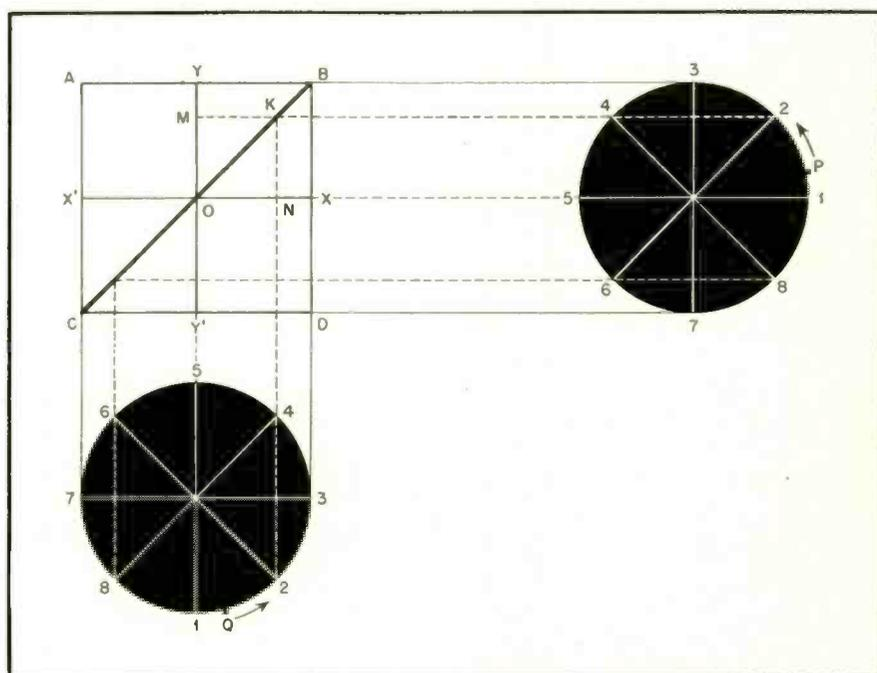

Fig. 1. Phase difference—0. Result: Line BOC.
Consider *Fig. 1*. The points *P* and *Q* describe simple harmonic motions within their respective orbits. Both move with the same angular velocity ω . The instantaneous projection of *P* is *M* and of *Q* is *N*. Both *M* and *N* execute simple harmonic motion along their respective axes *YOY'* and *XOX'*. To find the instantaneous value of the resultant point *K*, draw a perpendicular to *YOY'* through *M*, and another perpendicular to *XOX'* through *N*. The point of intersection of the two perpendiculars is the required point *K*. The numerals around the two circular orbits indicate the relative positions of *P* and *Q* at any instant and are therefore an indication of the phase difference.
The locus of the point *K* in *Fig. 1* is the line *BOC*. It is obvious from the arrangement of the numerals that the phase difference is zero. When *M* is at *O*, moving in the positive direction of *OY*, *N* is at *O* moving in the positive direction of *OX*.
which is an ellipse provided a does not equal b and ϕ is not 0 or π . Eq. (5) is the locus of point K in Fig. 1 for any arbitrary values of a , b and ϕ ; it is also the fundamental equation of this paper.
This is the equation of the straight line BOC in Fig. 1. It is easily seen that the slope of this line cannot be negative and that since it is proportional to b/a it is independent of the phase angle.